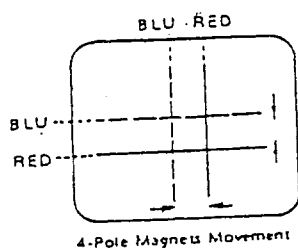

Fig 6-2
- (4) Adjust two tabs of the 4-pole Magnets to change the angle between them and superimpose red and blue vertical lines in the center area of the picture (See Fig 6-2).
- (5) Turn both tabs at the same time keeping their angles constant to superimpose red and blue horizontal lines at the center of the screen (See Fig 6-2)